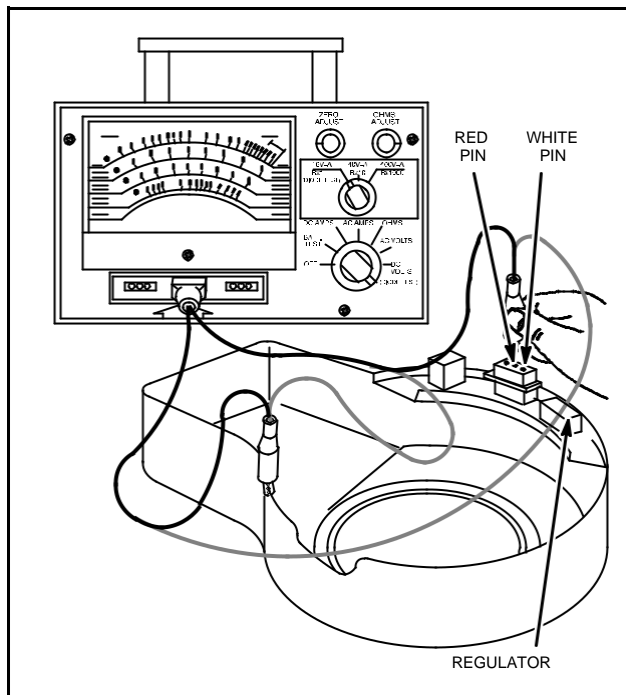

Fig. 756 – TESTING REGULATOR
4. Attach RED test lead clip to a clean, unpainted area on blower housing, Fig. 756.